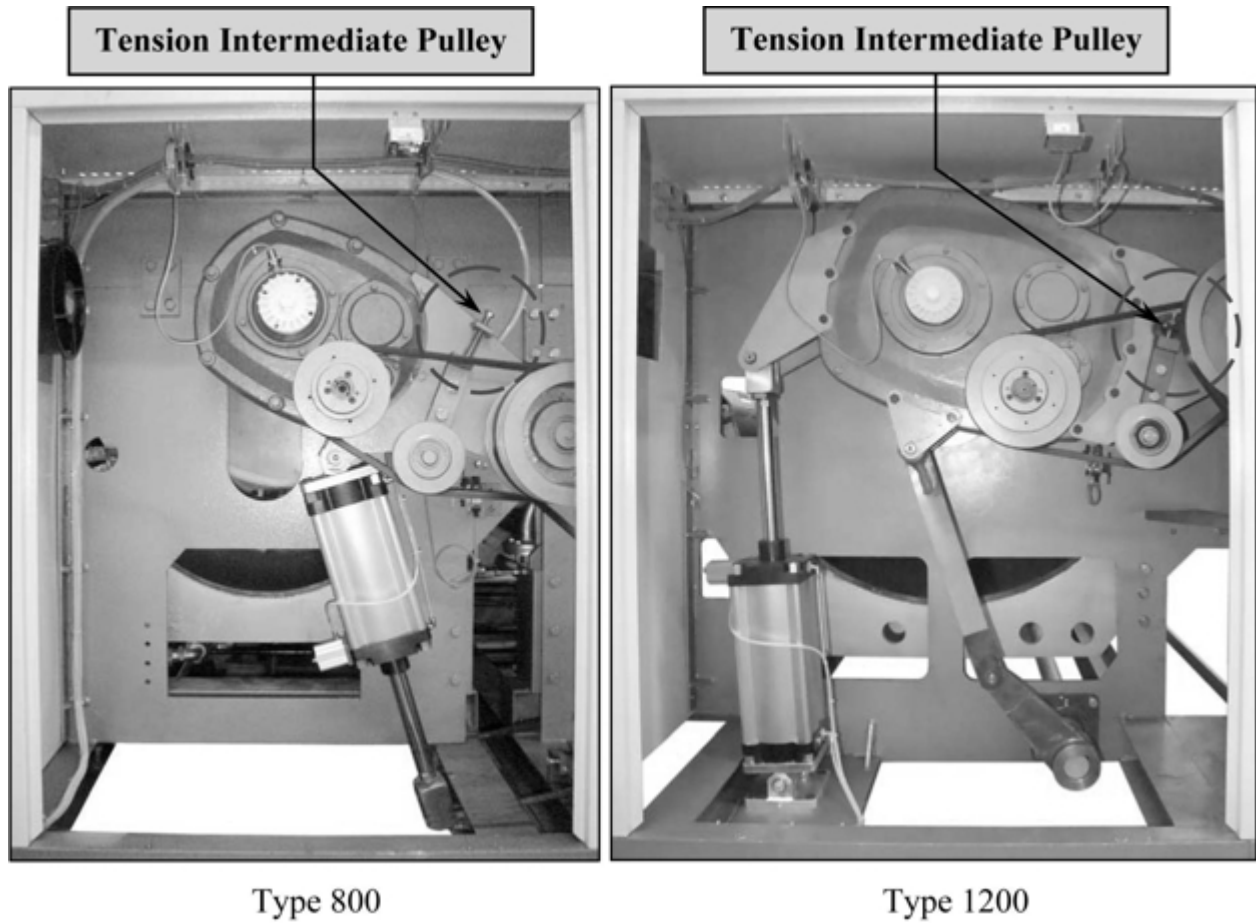

Figure 5.9: Tensioner Pulley Detail
1. To adjust the belt tension proceed as follows (refer to figure 5.9 on page 49 and the tension chart, table 5.2 on page 48):